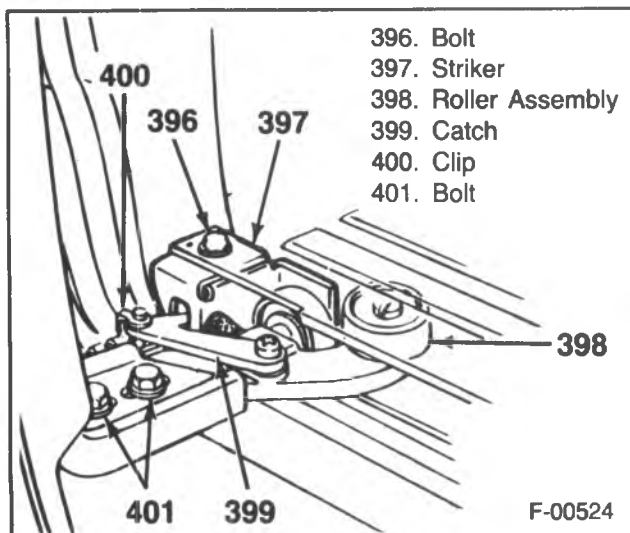

Figure 94 — Lower Front Roller Assembly
↔ Remove or Disconnect (Figure 94)
↔ Install or Connect (Figure 94)
2. The front edge of the door by loosening the upper front roller bracket to door bolts (figure 97) and the lower hinge to door bolts (figure 94). Align the door to obtain the same gap as in step 1, then tighten the lower hinge to door bolts (figure 94).
1. Remove the front lock striker (404).
2. Loosen the nut (418) retaining the upper front roller (415) to the upper roller bracket (381).
3. Loosen the lower front roller assembly to roller assembly bracket bolts (figure 94).
7. Tighten the lower front roller assembly to roller assembly bracket bolts (figure 94).
8. Tighten the nut (418) retaining the upper front roller (415) to the upper roller bracket (381).